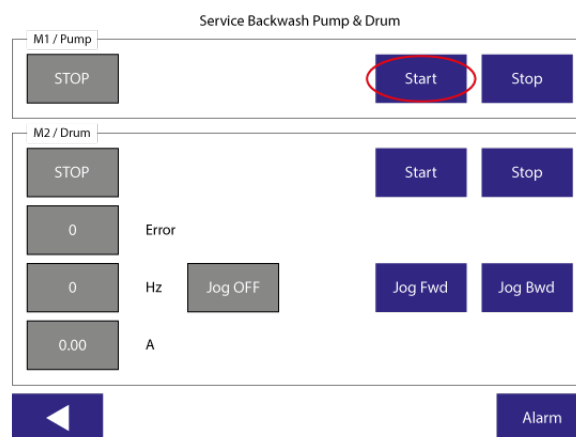

Figure 7.12 Service Backwash Pump & Drum window.
5. Select “Start” in the Drum window, see Figure 7.12.
6. Select “Start” in the Pump window, see Figure 7.12.